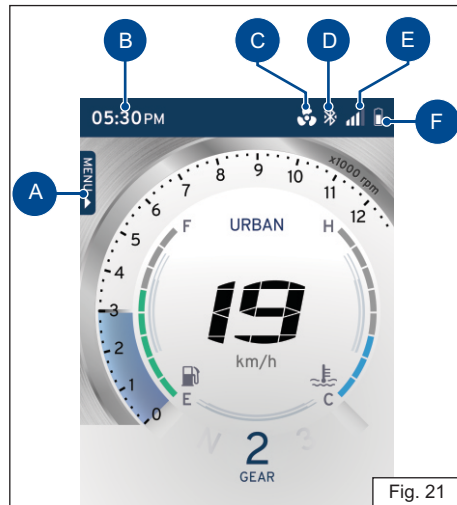

Fig. 21
2) TFT Multifunction display (ref. Fig. 21)